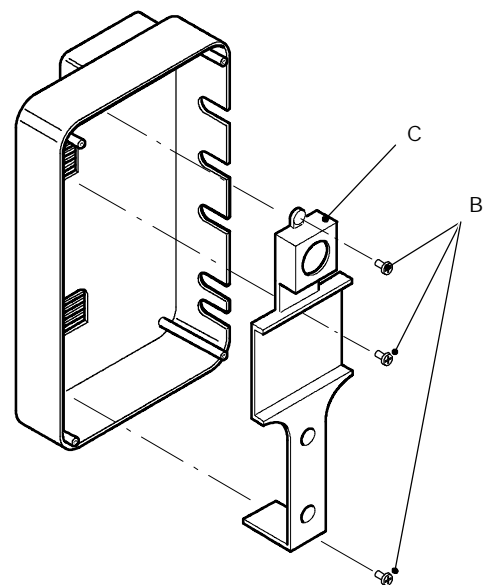

fig. 46
- 3 unscrew the three screws B and move away the bracket C (fig. 46);